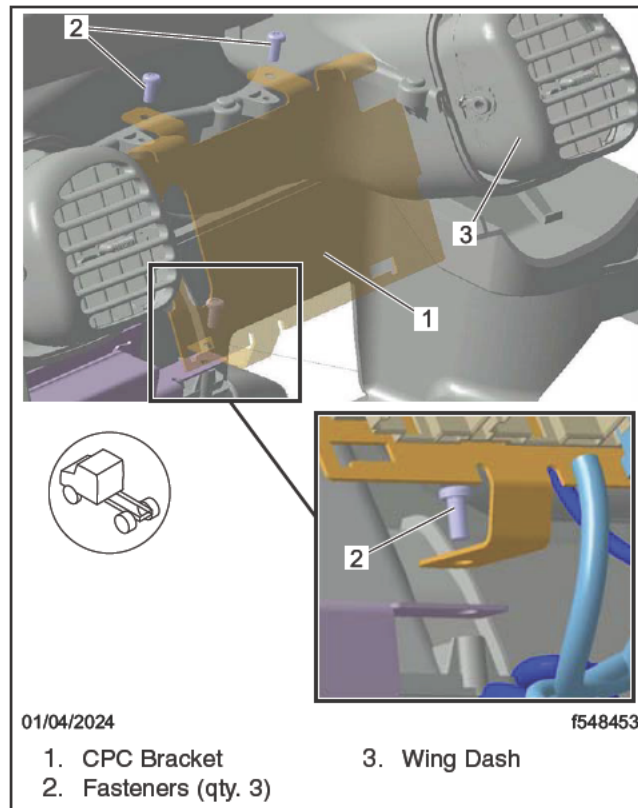

Fig. 6, CPC Bracket
4. Remove the CPC bracket from the dash assembly. See Fig. 6.